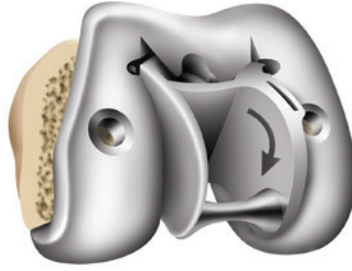

Figure 54
- 2 Insert the arms of the femoral cam module into the anterior aspect of the femoral trial box and rotate posteriorly until seated (Figures 54 and 55).